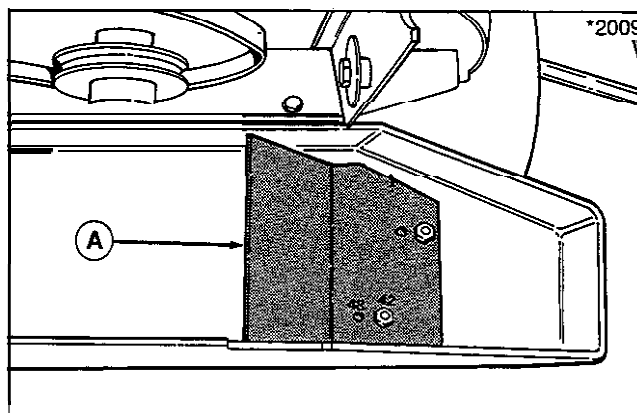

Figure 6.
11. The baffle (A, figure 6) is installed in the blower housing for use with 42" mower. For use with 48" mower, remove the baffle and install in holes marked 48".